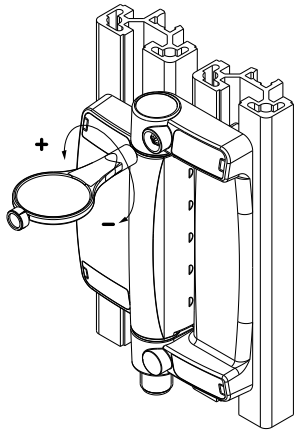

Fig. 6
2. Use the adjustment tool to set the NC contacts so that their opening is ensured at the maximum authorised safety guard opening angle. Turn clockwise to decrease the switching angle, turn counterclockwise to increase the switching angle (Fig. 6); when mounted inside accordingly reversed. The positive break angle is 7° larger than the set switching angle.